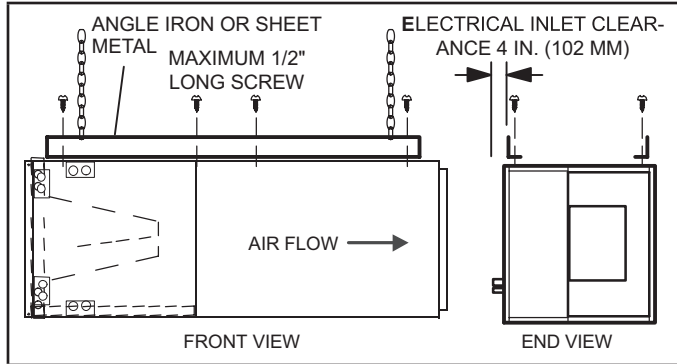

FIGURE 9. Suspending Horizontal Unit
- 5 - If the unit is suspended, the entire length of the cabinet must be supported. If you use a chain or strap, use a piece of angle iron or sheet metal attached to the unit (either above or below) to support the length of the cabinet. Use securing screws no longer than 1/2 inch to avoid damaging the coil or filter. See figure 9. Use sheet metal screws to connect the return and supply air plenums as required.
- 11 - If suspending the unit, it must be supported along the entire length of the cabinet. If using chain or strap, use a piece of angle iron or sheet metal attached to the unit (either above or below) so that the full length of the cabinet is supported. Use securing screws no longer than 1/2" to avoid damage to coil or filter, as illustrated in figure 9. Connect return and supply air plenums as required using sheet metal screws.